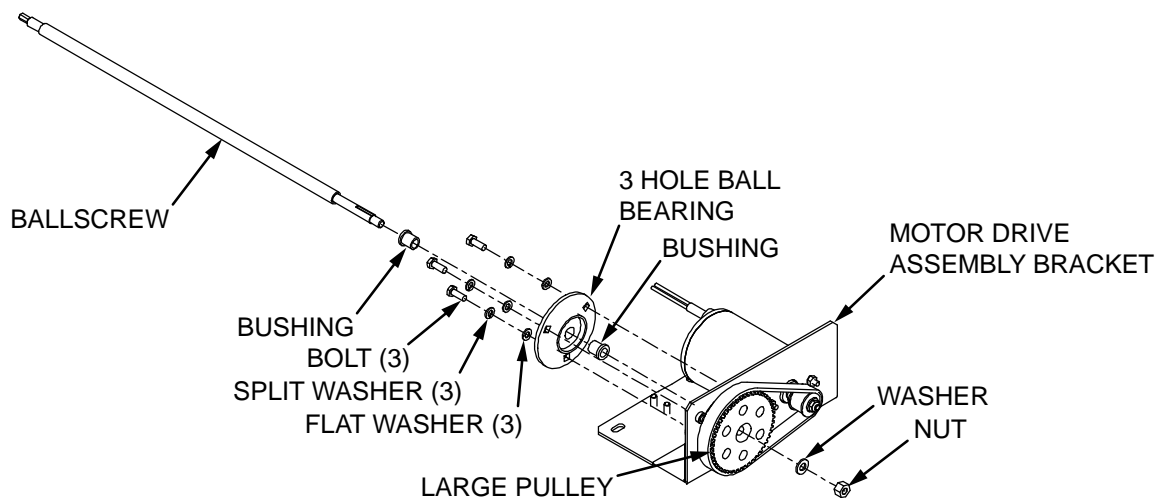

FIGURE 4-20: BALLSCREW ASSEMBLY
- c. Refer to **Figure 4-20**. Slide ballscrew through two bushings, 3 hole ball bearing, motor drive bracket and large spindle then install nut and washer to ballscrew end.
- d. Refer to **Figure 4-20**. Install 3 bolts, 3 split washers and 3 flat washers through 3 hole ball bearing and attach to motor drive bracket.